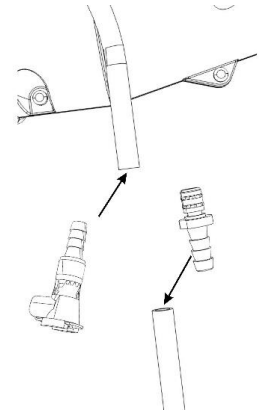
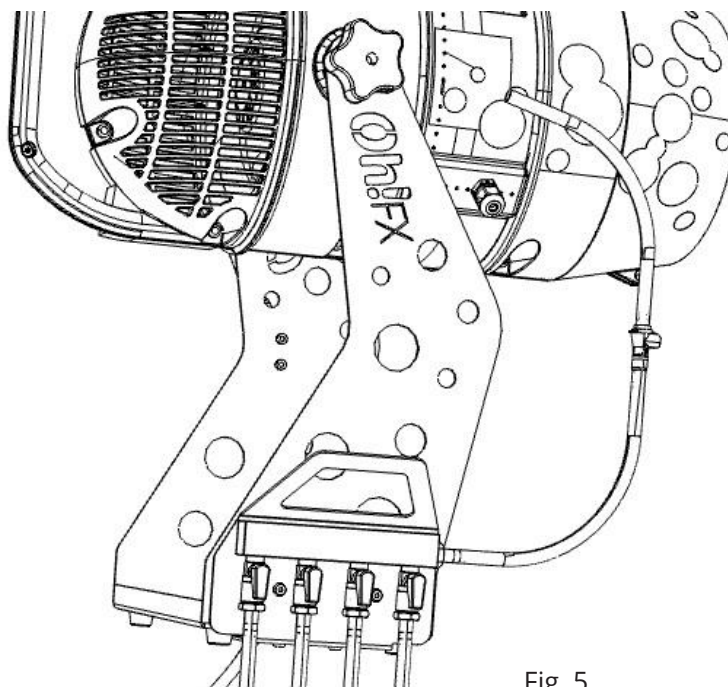

Fig. 3 / 4
Fig. 5
3. Insert the female quick connector (7) into the section of tube that remains connected to the machine, as shown in Fig. 3.
4. Insert the male quick connector (6) into the other cut section of tube so that both ends can be reconnected whenever you do not want to use the color selector. Keep that spare tube section.
5. Connect the male quick connector (6) of the selector outlet tube (5) to the female quick connector (7) of the machine suction tube. Fig. 5.